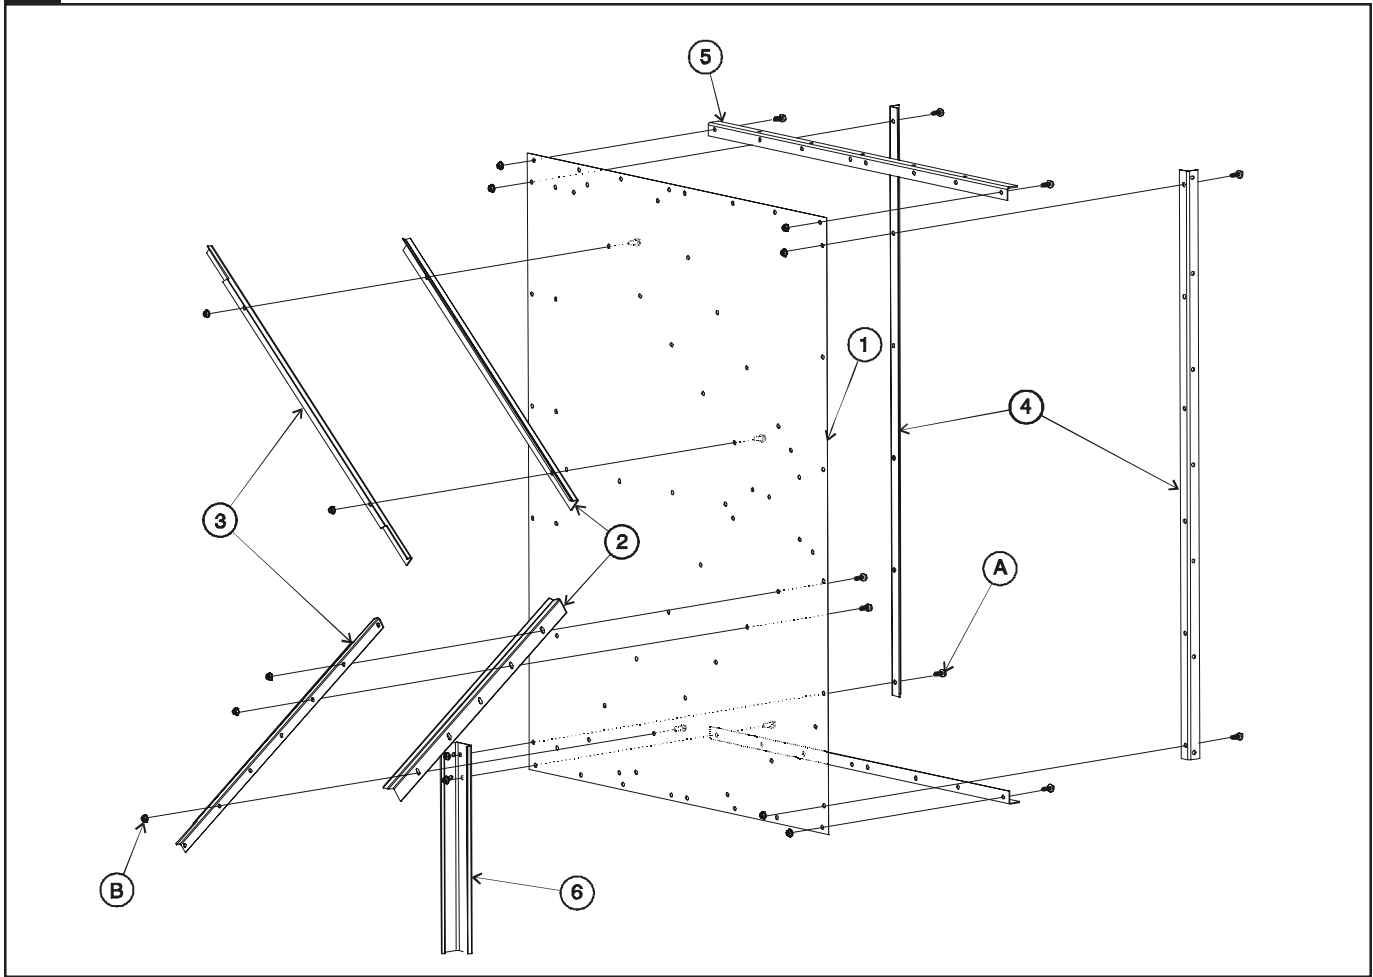

FIGURE 1
*(Refer to Figure 1 for hole alignment.)*
1. Insert a 3/8" x 1" HHCS Bolt through the front of the **Back Panel (1)**, then through the corresponding holes in the top and bottom **Runner Caps (2)** and **Screen Runners (3)**. Fasten using a 3/8" Whiz Nut.
2. Line up the holes in the **Side Flanges (4)** with the corresponding holes on the back side of the **Back Panel (1)**. Attach them together using 3/8" x 1" HHCS Bolts and a 3/8" Whiz Nuts.
**NOTE:** *The bottom left bolt will also go through the **Support Leg (6)** that is to be attached to the front side of the **Back Panel (1)**.*
3. Line up the holes in the **Top Flanges (5)** with the corresponding holes on the back side of the **Back Panel (1)**. Attach them together using 3/8" x 1" HHCS Bolts and a 3/8" Whiz Nuts.
### Fm Pan Sub Assembly (Refer to Figure 1 for hole alignment.)
### Connecting Sub Assemblies (Refer to Figure 1 for hole alignment.)